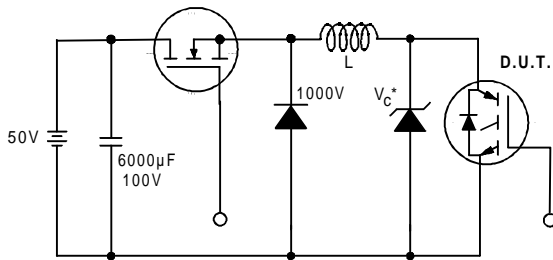

Figure 19. Clamped Inductive Load Test Circuit
- ② $V_{CC}=80\%(V_{CES})$, $V_{GE}=20V$, $L=10\mu H$, $R_G = 23\Omega$ (figure 19)
- ③ Pulse width $\leq 80\mu s$; duty factor $\leq 0.1\%$.
- ④ Pulse width $5.0\mu s$, single shot.